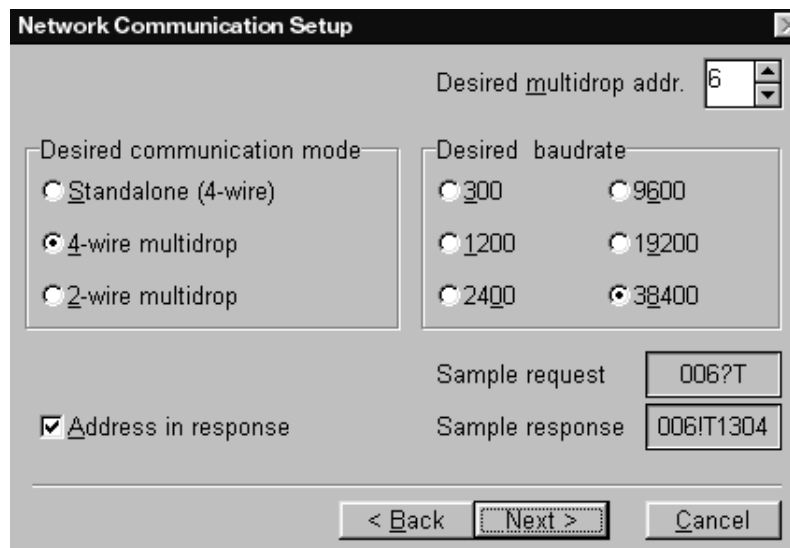

Figure 3-10: Address Selection Screen
- Now you can set the attached sensor's address (Figure 3-10). Select a number, making sure it is not one used by another sensor on the multidrop network. Select the desired communication mode, the desired baud rate, and if you want the multidrop address in the response. Click the Next button.